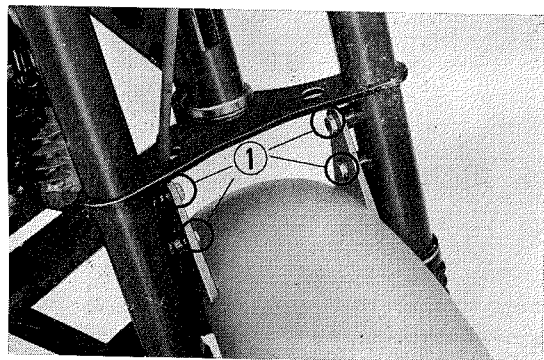

Fig. 64 ① 6mm. bolts
7. Unscrew four 6 mm bolts to remove the front fender from the front fork assembly. (Fig. 64)